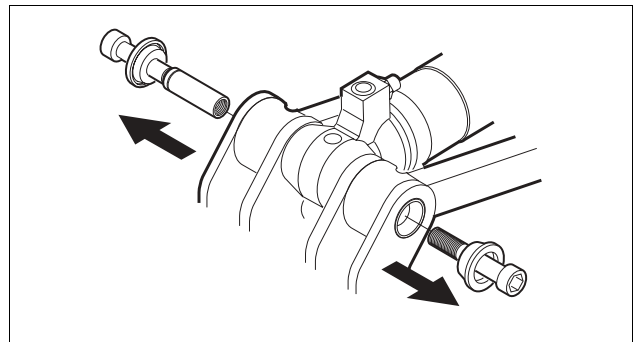

Fig. 47 Remove the screws and the washers
1. Remove the capscrews. *See Fig. 47.*
2. Remove the washers. *See Fig. 47.*